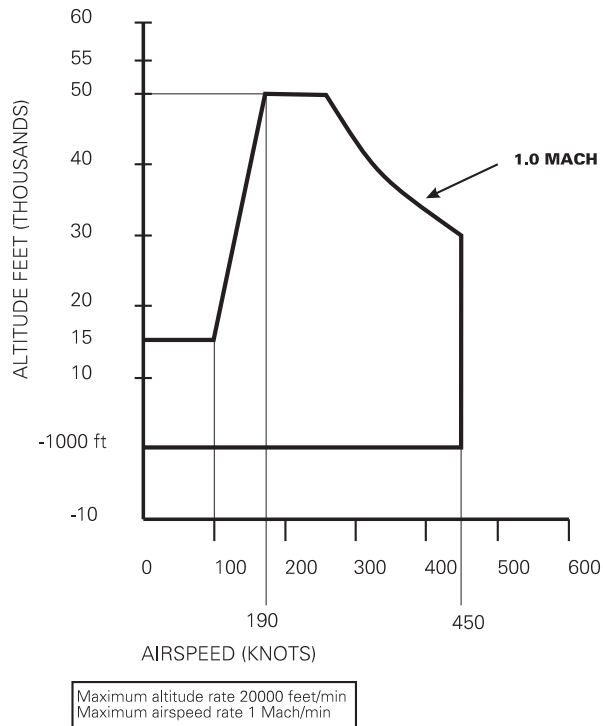

FIG 6-3 ARINC 565 OPERATING LIMITS
- **ARINC LIMITS (Figure 6-3)**
ARINC 565 operating limits are enabled by setting ARINC LIMITS ON and implemented as shown in Fig. 6-3.